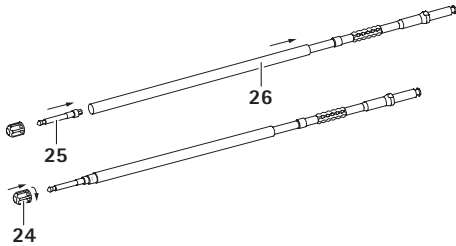

Fig. 9 Assembling ME013R and ME016R
- ▶ Firmly thread the nut **24** proximally over the screwdriver bit until it is fully threaded, see Fig. 9.